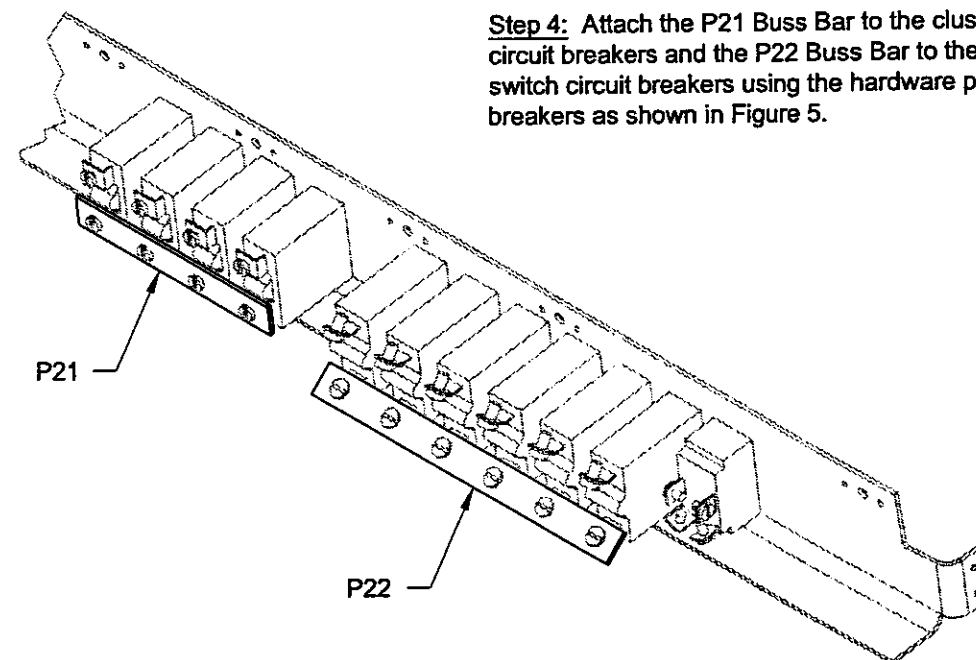

FIGURE 5: INSTALLING BUSS BARS
Step 4: Attach the P21 Buss Bar to the cluster of plain type circuit breakers and the P22 Buss Bar to the toggle type switch circuit breakers using the hardware provided with the breakers as shown in Figure 5.